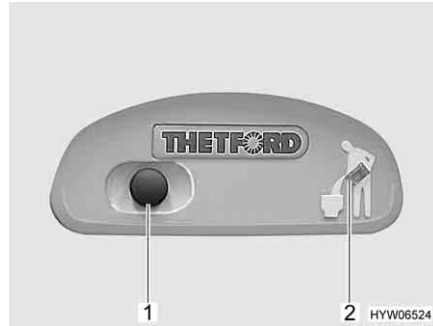

Fig. 224 Flush button/indicator lamp
- For flushing, press the blue flush button (Fig. 224,1 or Fig. 225,1).
The indicator lamp (Fig. 224,2 or Fig. 225,2) lights up whenever the sewage tank has to be emptied.